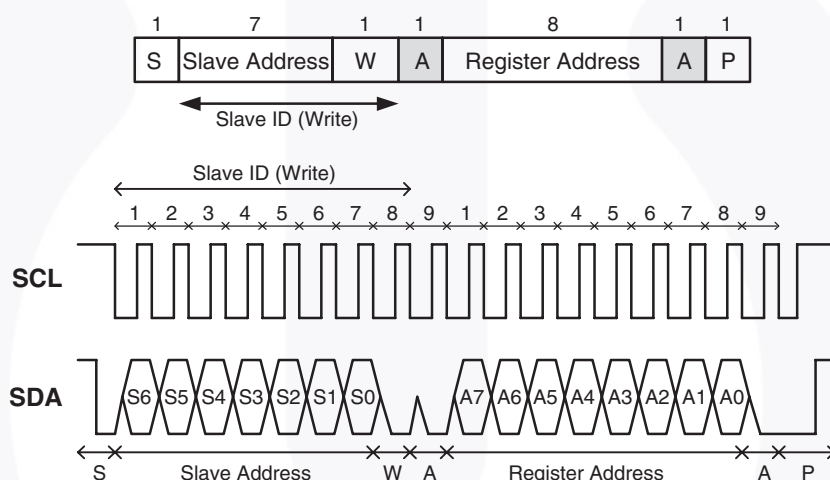
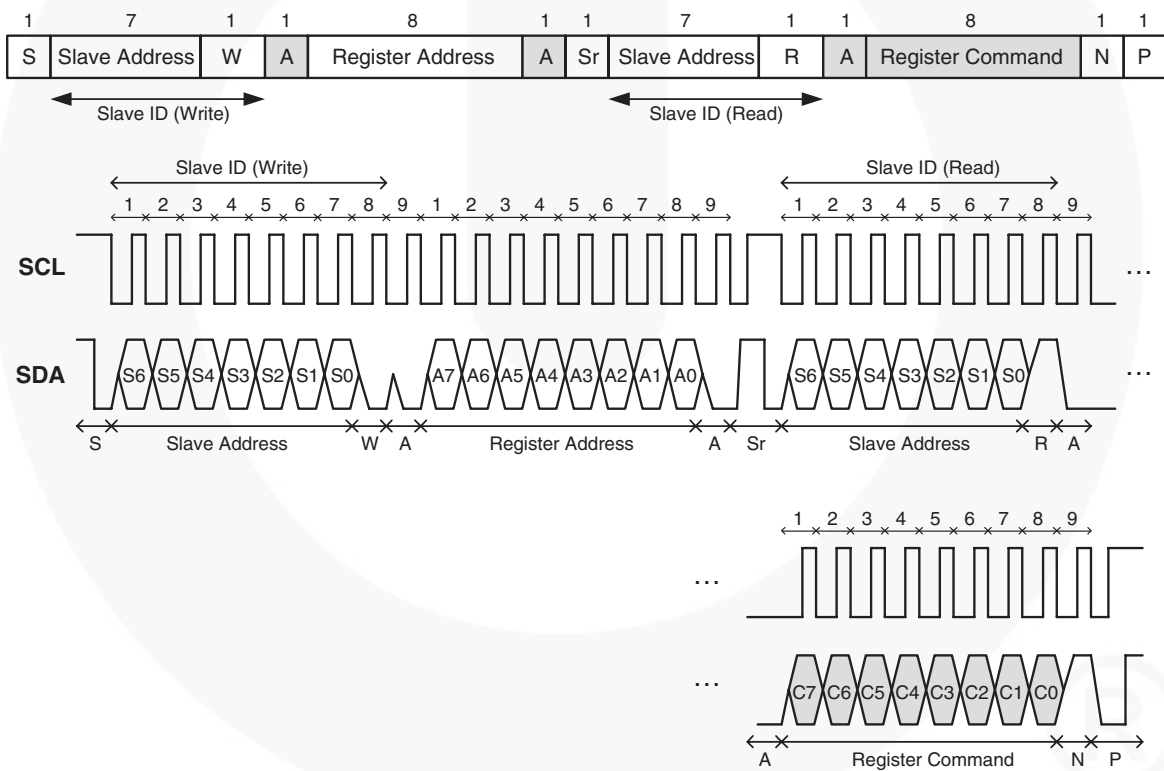

Figure 4. I²C Write Protocol (Type 1)
Figure 7. I²C Read (Combined Format) Protocol
- Figure 4 through Figure 7 outline the sequences for data read and write.